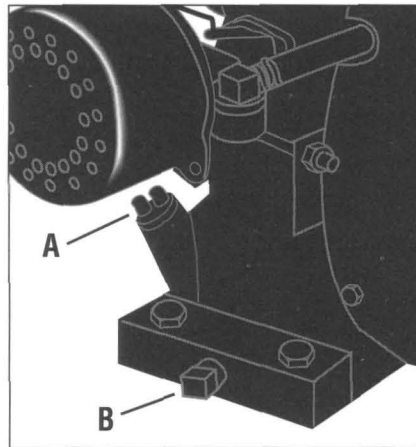
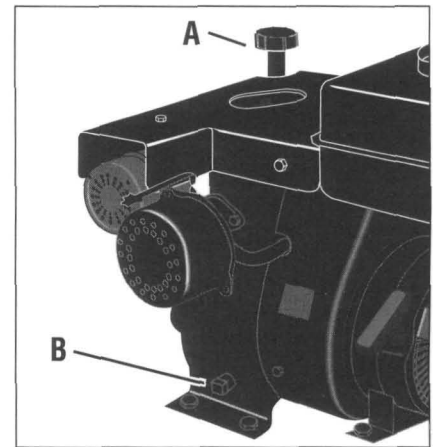

Figure 5-1: Oil fill plug (A) and front oil drain plug (B) on 4HP engine.
Figure 5-2: Dipstick cap (A) and front oil drain plug (B) on 5HP engine.
2. Clean the area around the oil fill plug (A, Figure 5-1) or the dipstick cap (A, Figure 5-2) to avoid contaminating the oil with dirt, etc. Remove the oil fill plug or dipstick cap.
2. An oil drain plug is located at the front and rear of the engine (see B, Figures 5-1 and 5-2). Either plug may be used.
5. Remove the oil fill plug (A, Figure 5-1) or dipstick cap (A, Figure 5-2) to vent the crankcase and speed up draining time.